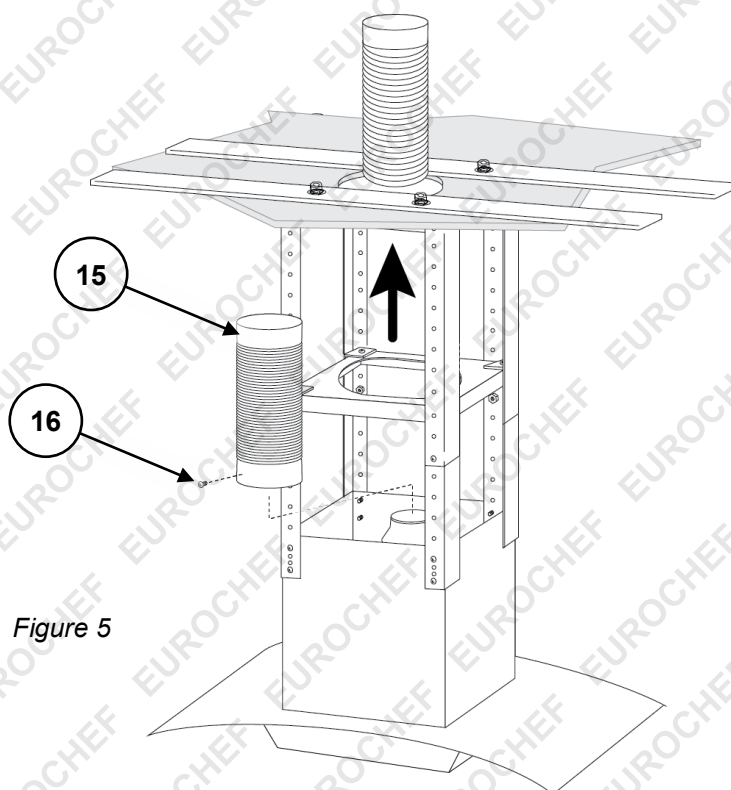

Figure 5
9. Refer to *Figure 5*. Place the end of the vent pipe (15) over the exhaust valve and secure with 2 #6 self tapping screws (16). Then, extend the vent pipe up and through the hole in the ceiling. Once in the ceiling, connect the vent pipe to a suitable vent tube, and pass the range hood power cord up through the ceiling hole.